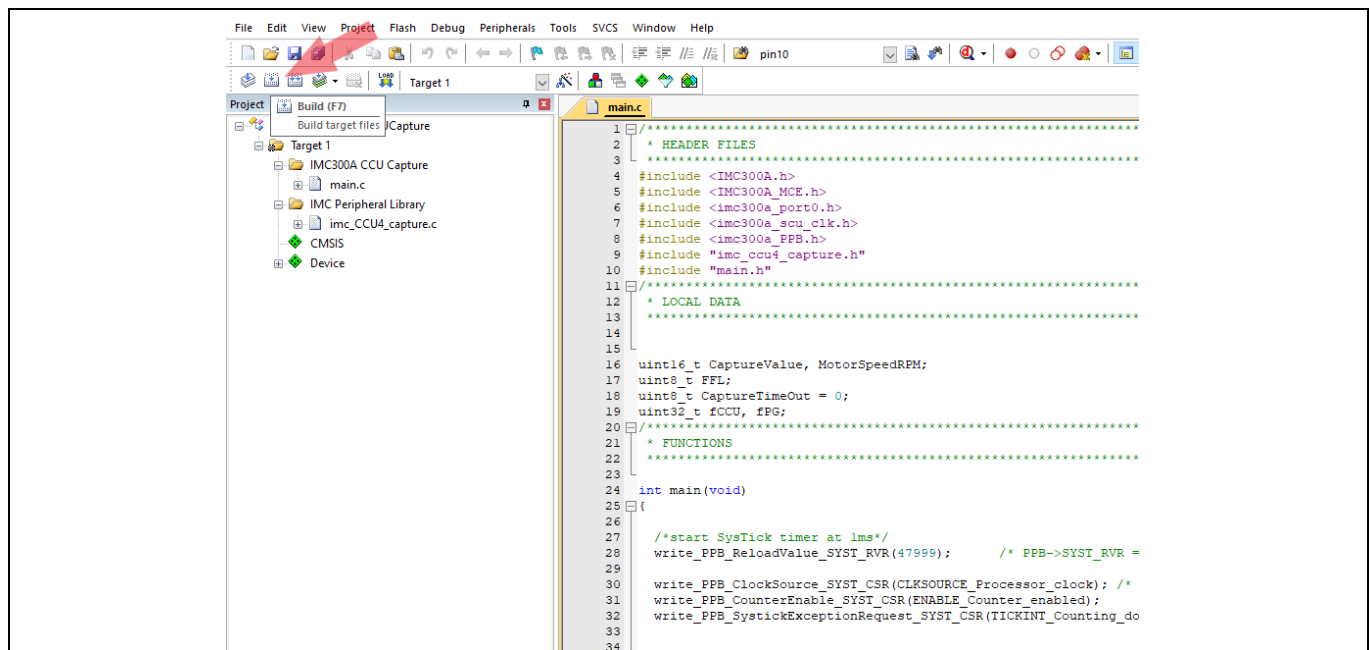

Figure 11 Keil µVision® IDE Build Project
- 3) Press F7 or click the “Build” button in the top left corner as shown in Figure 11. This should build the source code and compile into an object file.